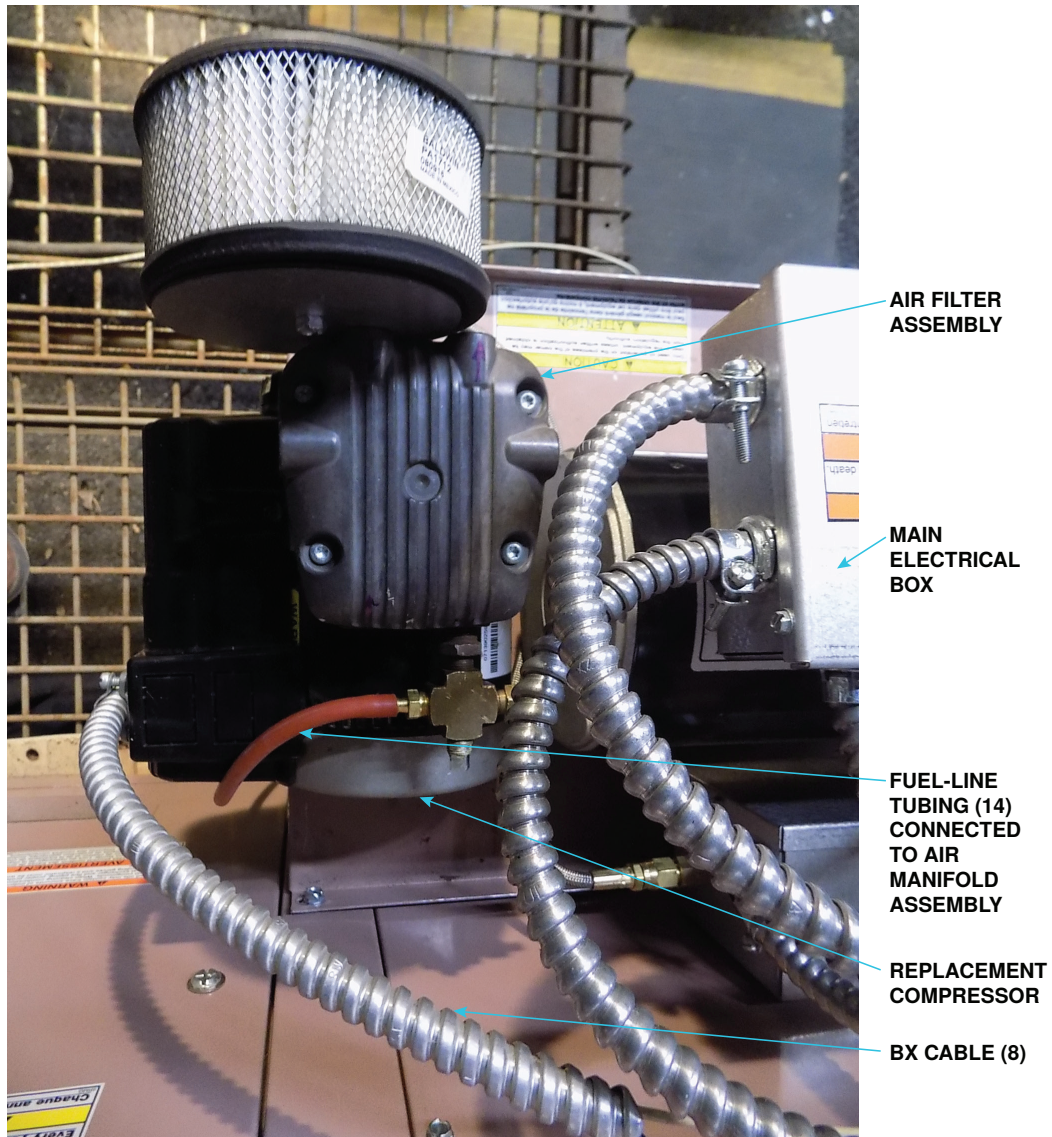

Figure 74. Replacement Compressor Installed (Model RAD 500 Shown)
6. Install replacement compressor (see Figure 74):